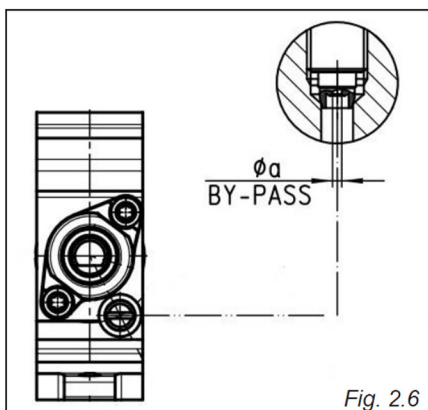

Fig. 2.6
The taps of the cooktop are equipped with safety valves; in these taps the idling screw is located outside the tap (Fig. 2.6).
- Remove the tap knob and use a screwdriver to cut on the screw “A” (fig. 2.6) until the flame desired.